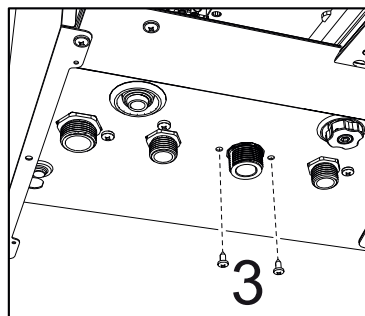

fig. 54 -
- Loosen the screws "3" ("fig. 54 -").